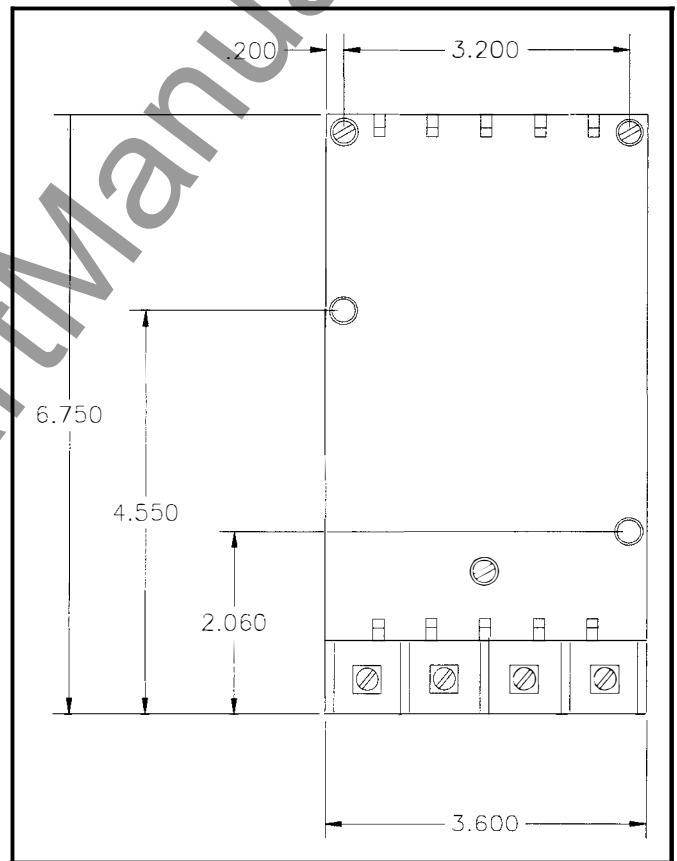

Figure 4.3 Power Module Dimensions
- The separated power module can physically fit in the desired location (See clearance dimensions in Figure 4.3).